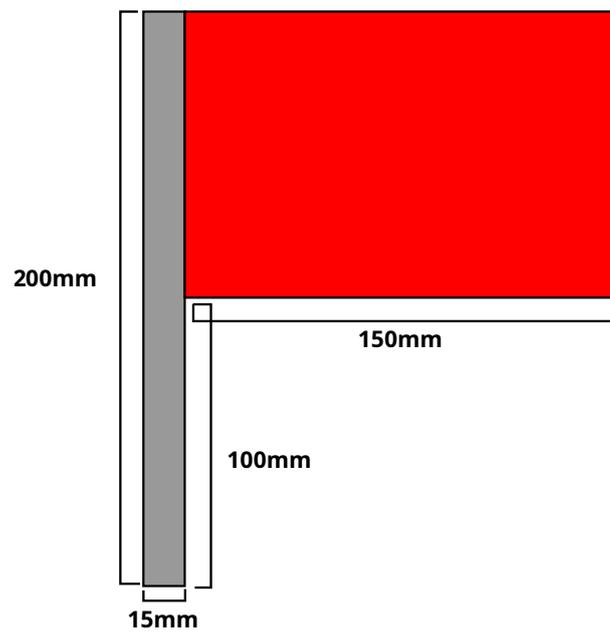

Figure 1: An example robot flag.
3.2.3 The identifying area will be attached to the top  $100mm \pm 10mm$  of the mounting cylinder, with a width of  $150mm \pm 10mm$ , as described in figure 1.